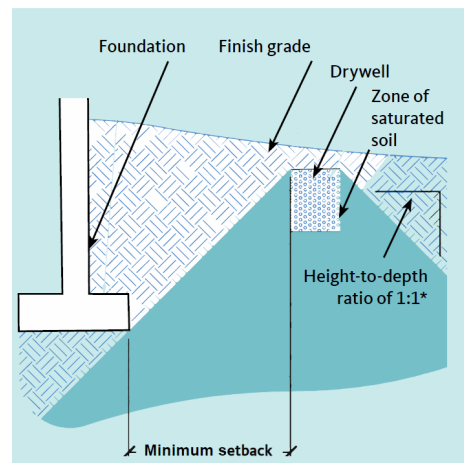

Figure 1
- 5.) Proposed development is in close proximity to existing sewer facilities and/or easements, the sewer/easement is within a 1:1 zone of influence (see Figure 1) of the proposed building/footing, or there has never been a house on this lot previously